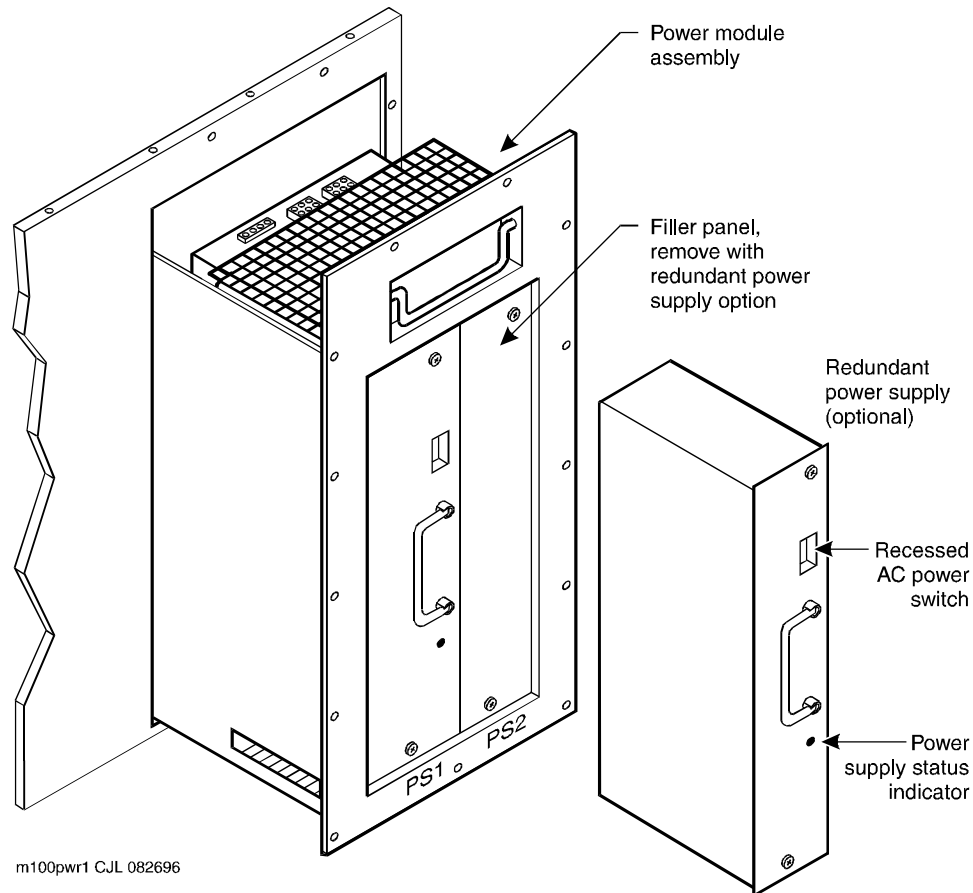

Figure A-5. Power Module Assembly with Redundant Power Supply Capability
2. Loosen the two 1/4-turn fasteners that hold the filler panel to the power supply module assembly. See Figure A-5.
5. Loosen the two 1/4-turn fasteners that hold the power supply to the power module assembly. See Figure A-5.